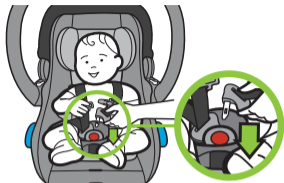

Figure 17
- Insert Buckle Tongues into Buckle one at a time as shown in **Figure 17**. You should hear a click after each Buckle Tongue is inserted.